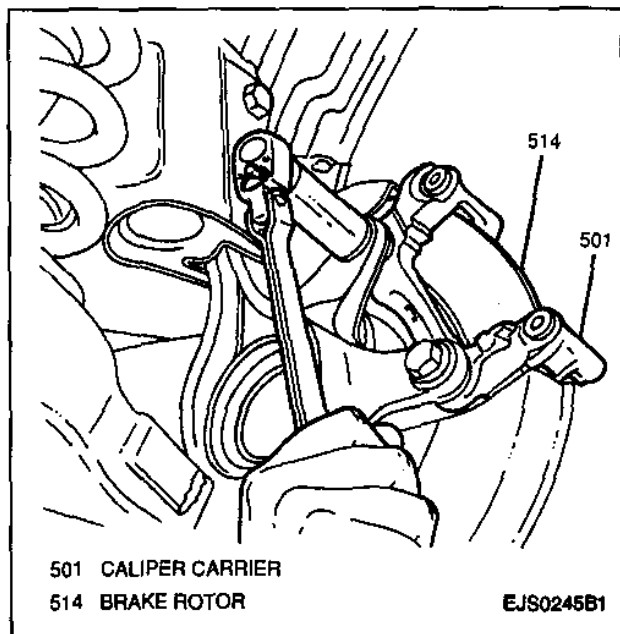

Figure 11—Removing Caliper Carrier Mounting Bolts
10. Two mounting bolts and caliper carrier from vehicle (Figure 11).